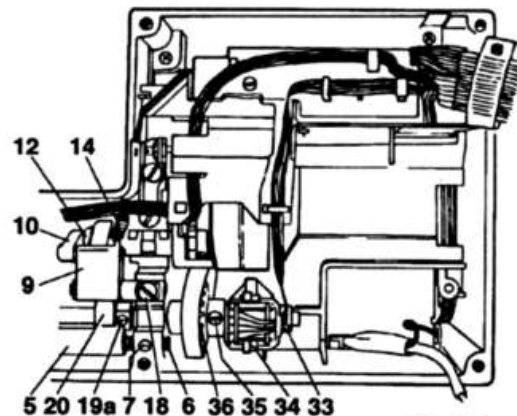

Fig. 27a
- Loosen fixing collar screw 33 of the synchronizer (fig. 27a).
- Unscrew dog-point screw 19a of feeding eccentric 20 (fig. 27a).
- Loosen the 3 screws 35 of the lower toothed belt sprocket (fig. 27a).